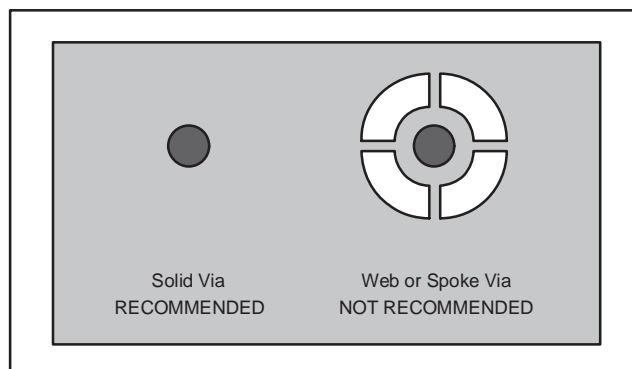

Figure 7. Via Connection
5. When connecting these holes to the ground plane, do not use the typical web or spoke via connection methodology; see Figure 7. Web connections have a high thermal resistance connection that is useful for slowing the heat transfer during soldering operations. This makes the soldering of vias that have plane connections easier. However, in this application, low thermal resistance is desired for the most efficient heat transfer. Therefore, the holes under the PowerPAD package should make their connection to the internal ground plane with a complete connection around the entire circumference of the plated through hole.